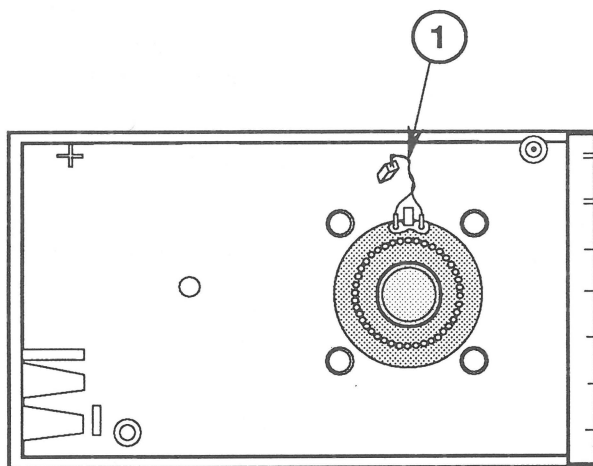

FIGURE 8
1. If the speaker was removed, place the speaker in the bottom of the case so that the cable extends toward the right side of the case (Figure 8, #1).